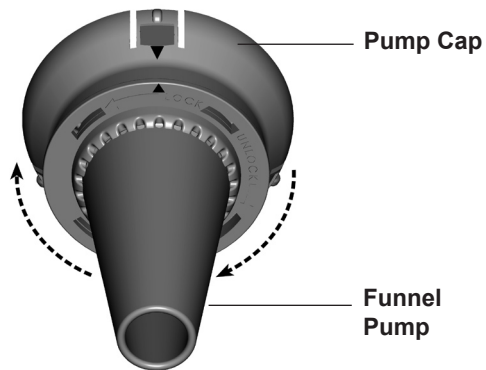

Figure 14a
- Remove the Pump Cap from the Funnel Pump by holding the Pump Cap securely in one hand while twisting the Funnel Pump in a clockwise direction. This will unlock the two components. See Figures 14a and 14b.